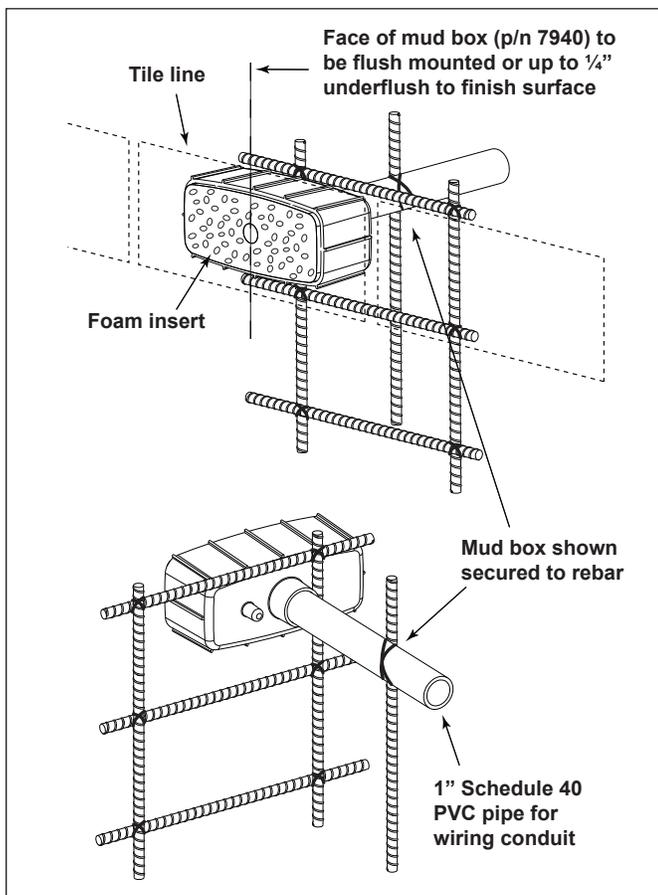

Figure 6. Vertical Wall Rough-in Installation
3. Apply a ¼" to ⅜" diameter bead of silicone sealant around the mud box. Position and secure the mud box in place. Figure 6 shows mud box secured to rebar.